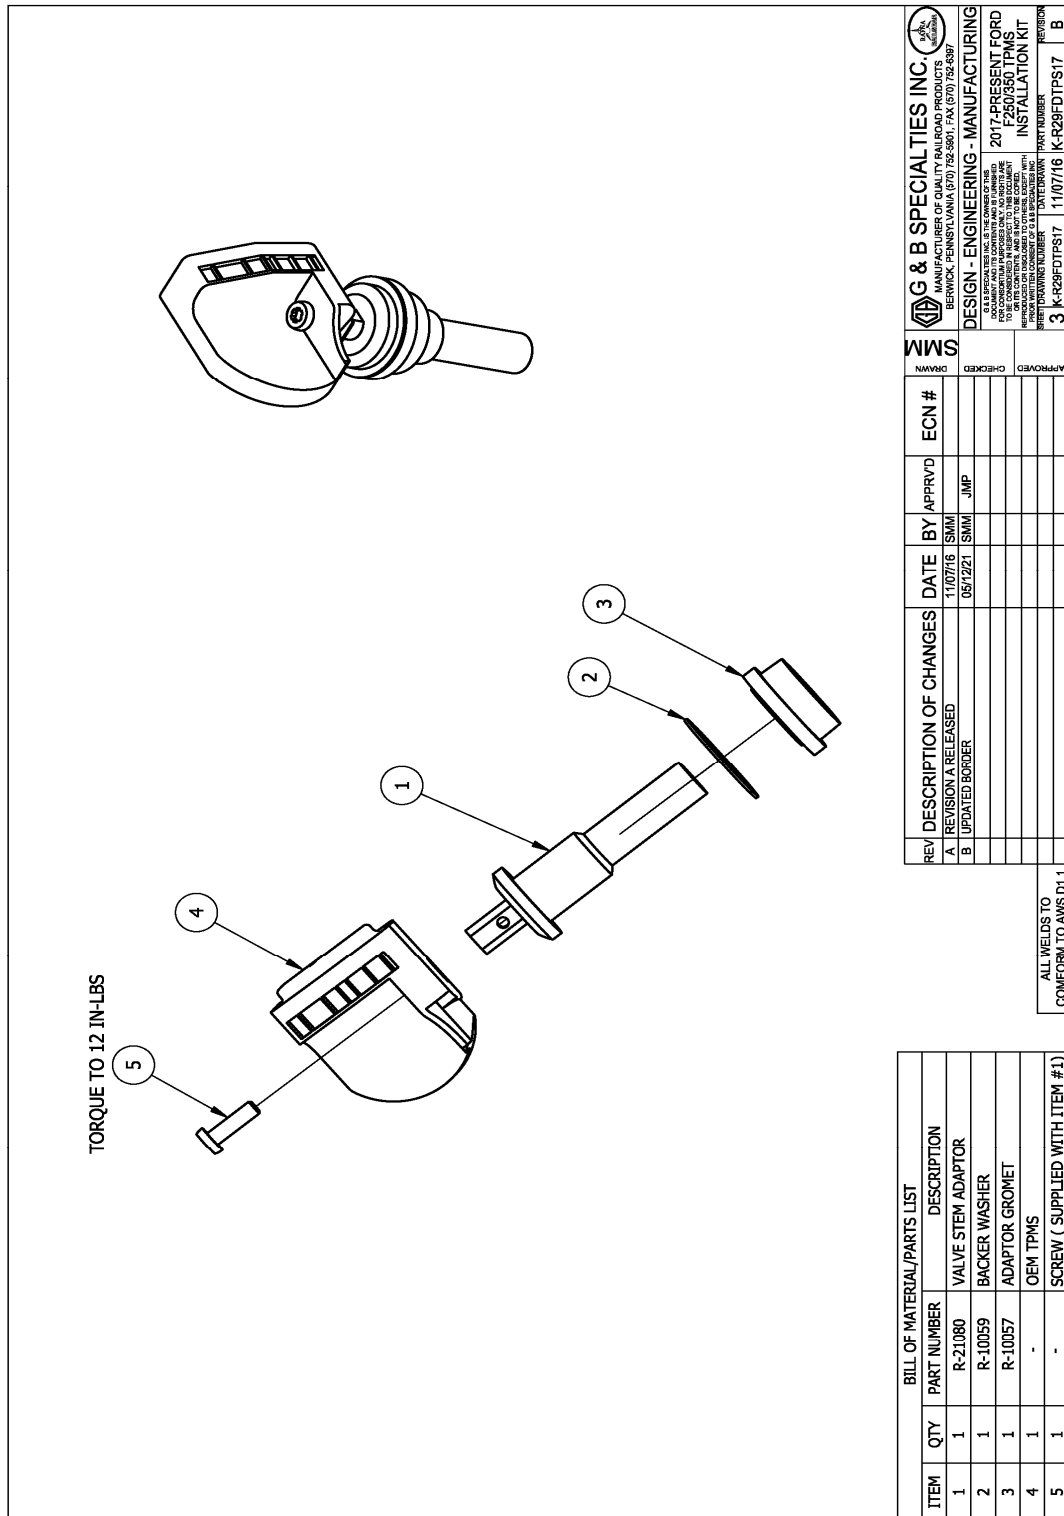

Figure 3
4. Assemble the valve stem adapter to the OEM sensor as shown, using the screw supplied with the valve stem adapter. It is recommended that the screw be torqued to 12 in-lbs. (Figure 3 & 4)
5. Assemble the backer washer and adapter grommet to the valve stem adapter as shown. (Figure 3)